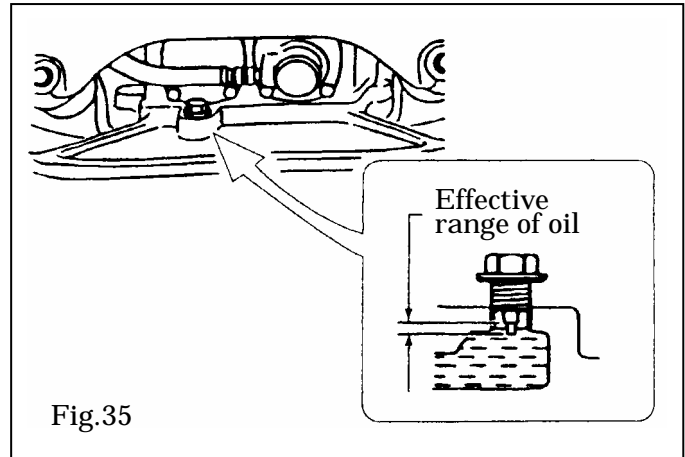

Fig.35
5. Checking the vibrator oil (See Fig.35):